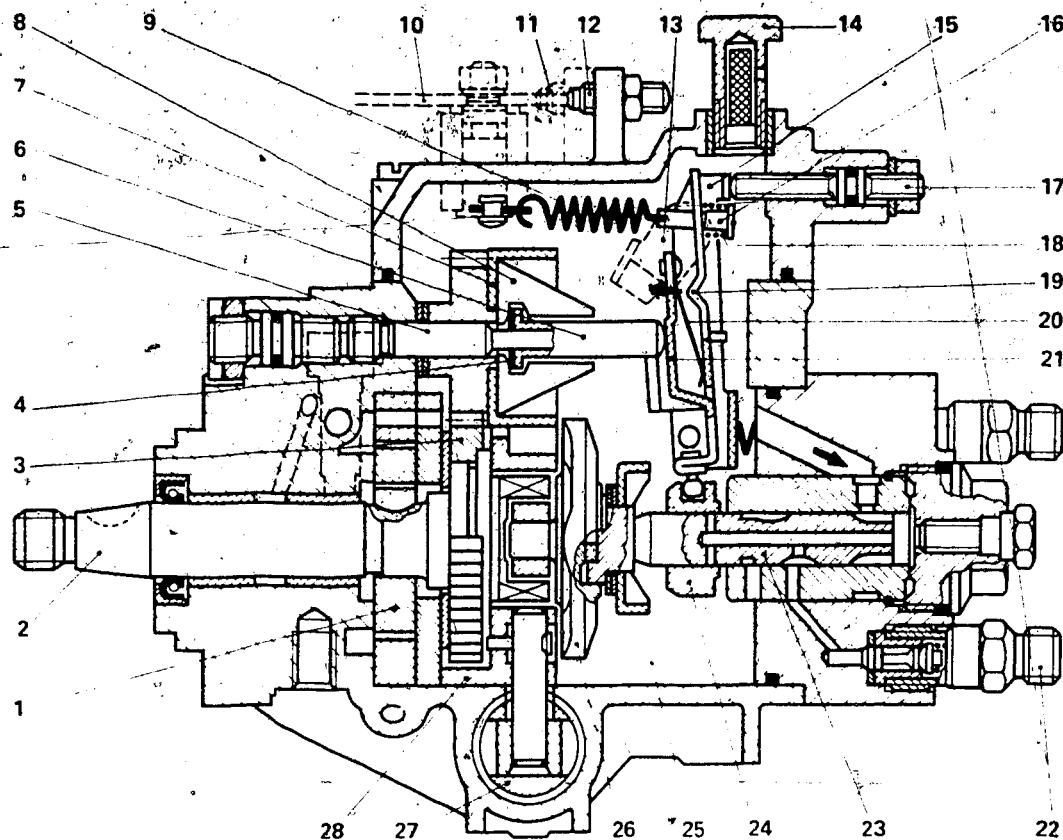

Fig. 3
2. Construction of mechanical governor (Fig. 3)
3. Operation of the mechanical governor (Fig. 3)
4. Injection control (Fig. 3)